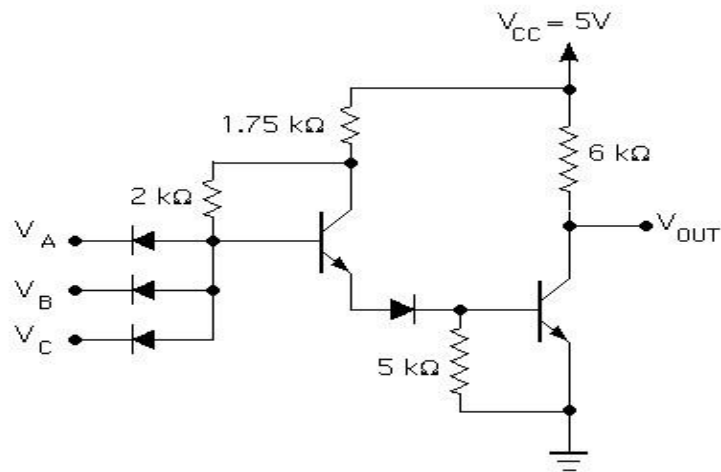

Figure 1.7: modified 3-input DTL NAND gate
- To increase the fan-out of DTL gate the base current of T_1 has to be increased. This can be done by replacing diode D_1 by the transistor, as shown in the figure 1.7.